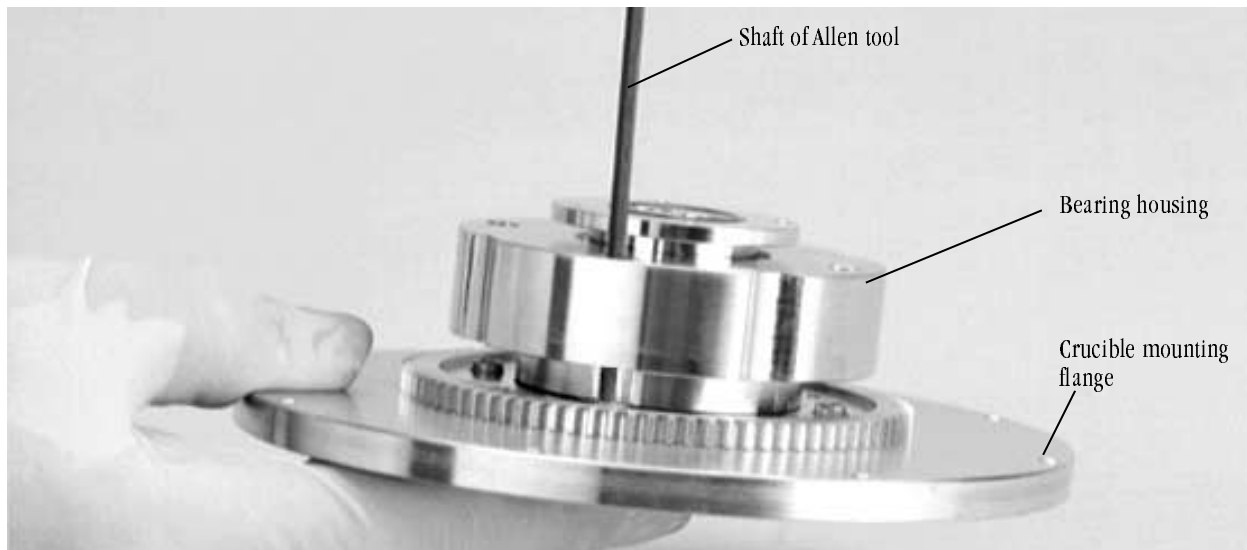

Figure 6-18. Allen driver inserted through hole in the bearing housing
Step 4: Insert the Allen driver through these holes and tighten these screws, as shown in Figure 6-18.